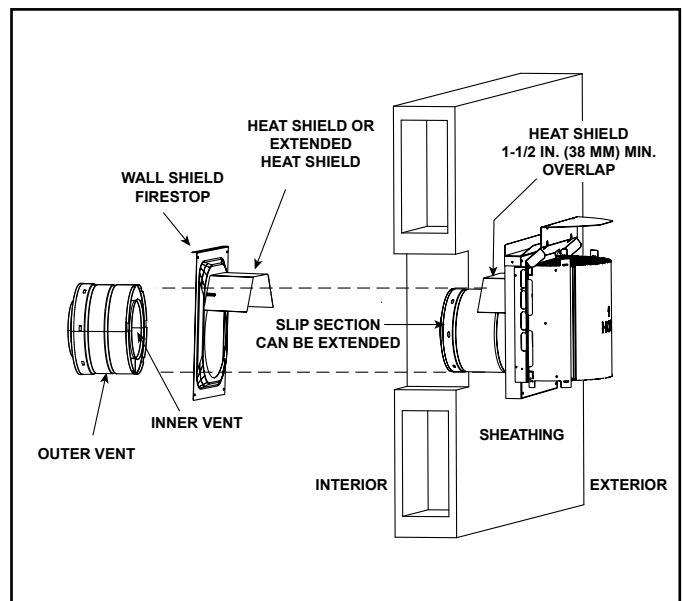

Figure 10.17 Venting Through the Wall
- **DO NOT** remove the heat shields attached to the wall shield firestop and the horizontal termination cap (shown in Figure 10.17).
There are two sections of the heat shield. One section is factory-attached to the wall shield firestop. The other section is factory-attached to the cap. See Figure 10.17.